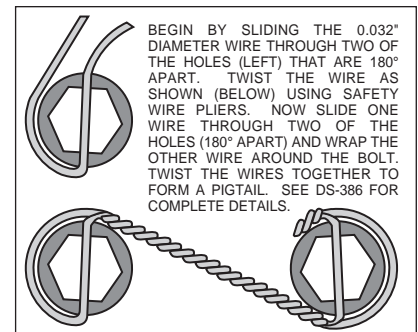

Figure 4. Safety Wire Diagram
- Install the grease seal (6) by pressing into the backside of the hub (4).
- Pack the small outer bearing cone (12) with high temperature disc brake bearing grease and install into front side of the hub (4). Slide the hub assembly (4, 5, 6 and 12) onto the spindle. Secure using spindle washer (13), stock adjusting nut, and nut locking device. Adjust wheel bearing pre-load per Original Equipment Manufacturer (OEM) specifications.
- Install the O-ring (14) and the dust cap (15) into the hub (4). **NOTE: O-ring (14) friction will not allow cap (15) to unscrew on its own.**
- With the larger I.D. side of the rotor (7) facing away from the hat (8), bolt rotor (7) to hat (8) through the backside of the rotor using washers (9) and bolts (10). Torque bolts (10) in an alternating sequence to 85 **in-lb**. Safety wire bolts (10) using standard 0.032 inch diameter stainless steel safety wire as shown in Figure 4. Please refer to Wilwood's data sheet DS-386 (available at www.wilwood.com/Pdf/DataSheets/ds386.pdf) for complete safety wire installation instructions.
- Slide the rotor/hat assembly over the studs (3) in the hub (4) taking care to align the small countersunk holes in the hat (8) with the small threaded holes in the hub (4). Install three flat head socket head screws (11) through the small holes in the hat (8) and torque to 85 **in-lb**. Check to be sure the hat seats squarely against the hub face.
•**NOTE:** Please reference the caution statement at the beginning of the assembly instructions. The caliper mount brackets (16) should be installed first with clean, dry threads on the mounting bolts (17). Place sleeve (19) into the holes on the radial mount caliper bracket (16). Install the radial mount caliper bracket (16) on the backside on the flat caliper bracket (1) by sliding bolt (17) through washer (18) and through the bracket holes. Place spacer (20) and shim washer (21) between the two brackets and screw bolt (17) into insert nut on the flat caliper bracket (1). Finger tighten bolt (17). Use one thin shim (21) between the two brackets (1 and 16) during initial trial fitting.
•Lubricate caliper mounting studs (23) and nuts (26) with lightweight oil. Install two shim washers (24) over each pre-installed stud (23) on the radial mount bracket (16). Slide the caliper (22) in place over the studs and rotor, then install the washer (25) and lock nut (26) to hold the caliper in place. The caliper bleed screws should be pointing up.
•View the rotor (7) through the top opening of the caliper (22). The rotor (7) should be aligned in the center of the caliper (22). If not, adjust the radial mount caliper bracket (16) by using shims (21 and/or 28)) placed between the two brackets (1 and 16). Add as many shim washers (21 and/or 28) as necessary to achieve the correct alignment. Always use the same amount of shims on both the top and bottom radial mount caliper mounting bolts (17). Finger tighten and recheck alignment, adjust as necessary. Apply red *Loctite*® 271 to bolt threads (17) and torque to 47 ft-lb.
•Remove the caliper center bridge pad retainer bolt, nut, and tube from the caliper. Slide the brake pads (27) into place. They should install easily without interference. Check that the outside radius of the brake pad is flush with the outside diameter of the rotor face. Add or subtract shims (24) between the caliper and mount bracket to gain the proper alignment. Reinstall the caliper and torque the caliper nuts (26) to 30-35 ft-lb. Reinstall the center bridge pad retainer tube, bolt, and locknut. The locknut should be snug without play in the bolt or tube. Be cautious not to over tighten.